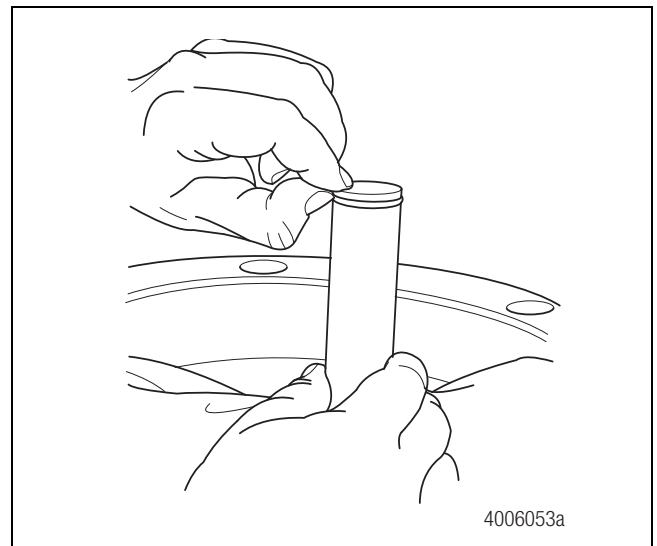

Figure 4.14
6. Remove the O-ring seals from the pinion shafts. Discard the O-ring seals. Figure 4.14.